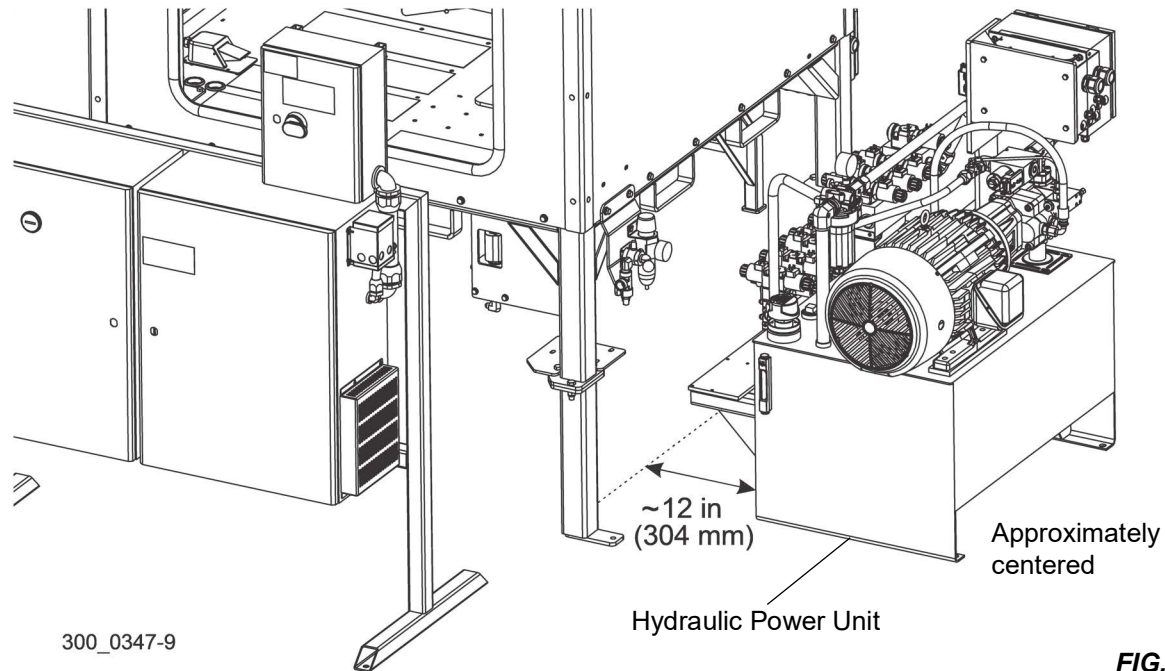
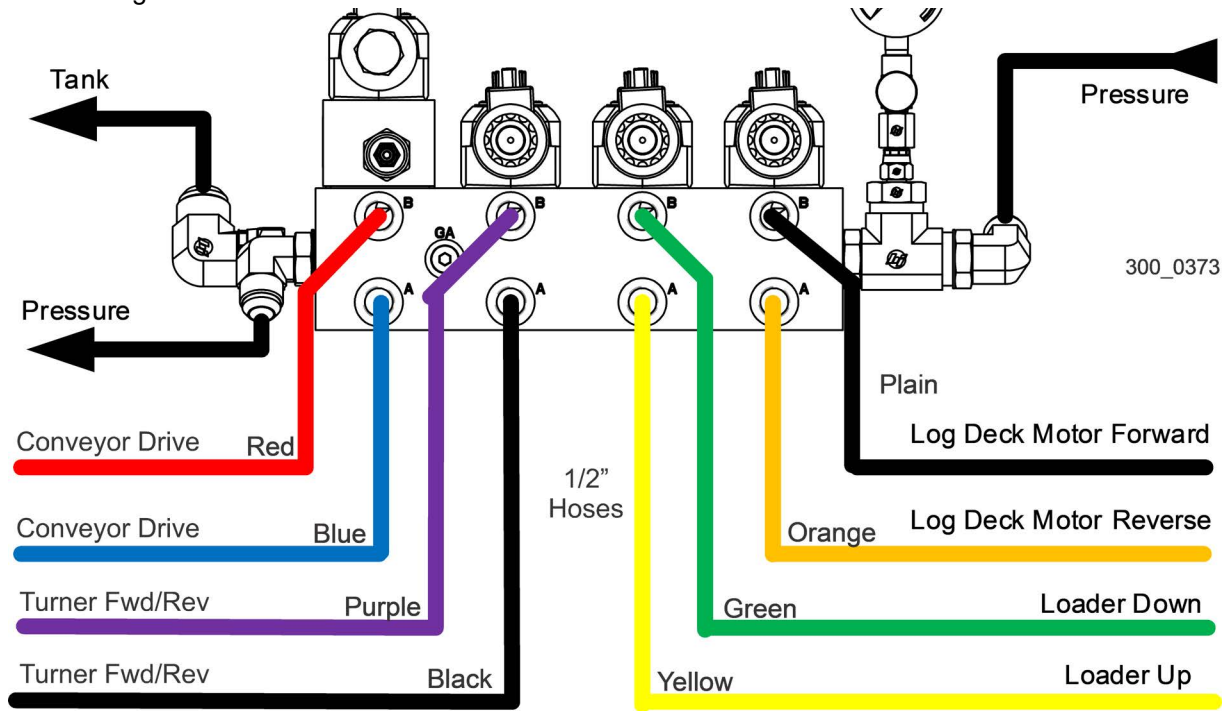

FIG. 3-25
FIG. 3-26
5. Remove the plugs from the hoses and connect each hose to the appropriate fitting on the hydraulic power unit. See Fig. 3-25. and Fig.3-26.